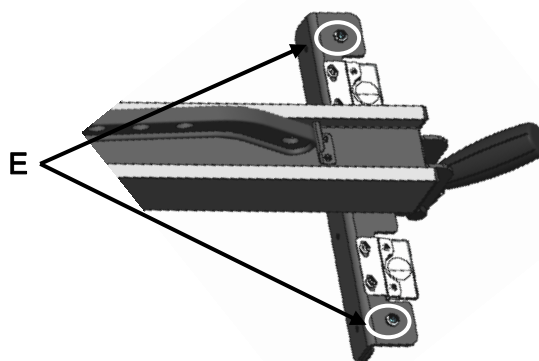

Fig. 15
3. If needed, to level the fence, adjust the plastic set screws E equally, thereby raising or lowering the front of the fence an equal amount on either side so as not to undo the previous perpendicular adjustment Fig. 15